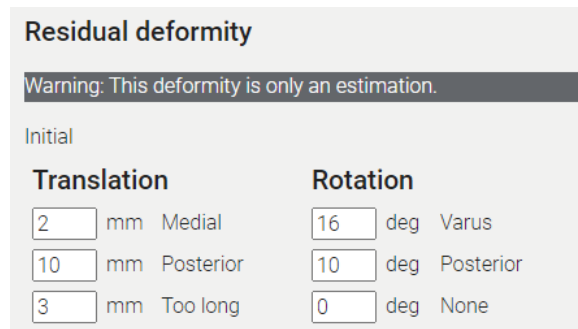

Figure 49 – Warning that the deformity is only an estimation.
**Warning:** Bone models are only intended to be used for simulation purposes only. Bone models do not need to correspond to the clinical situation. The deformity is only an estimation (as always displayed as a warning in the left pane of the *Treatment simulation* subtab under *Residual deformity*, cf. figure 49).